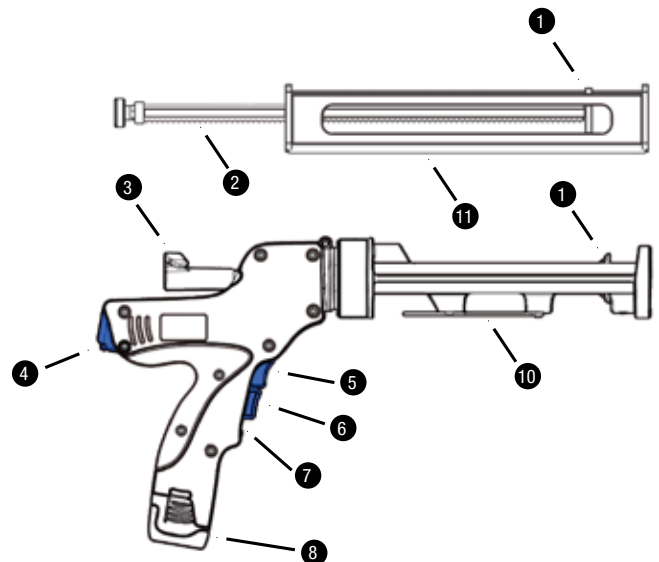

Figure 1
3. Dispense Material – Pull Power Trigger (figure1-No.6) to start the flow of adhesive, release the trigger to stop the flow of adhesive. The ChemPower Dispenser has a non-drip function this will back off the piston automatically. When material is completely dispensed press Clutch trigger and pull rack fully back. Remove cartridge. **Attention!! Dispense the first amount of chemical from nozzle and on each subsequent nozzle change as per (MII) installation instructions found on cartridge or TDS.**